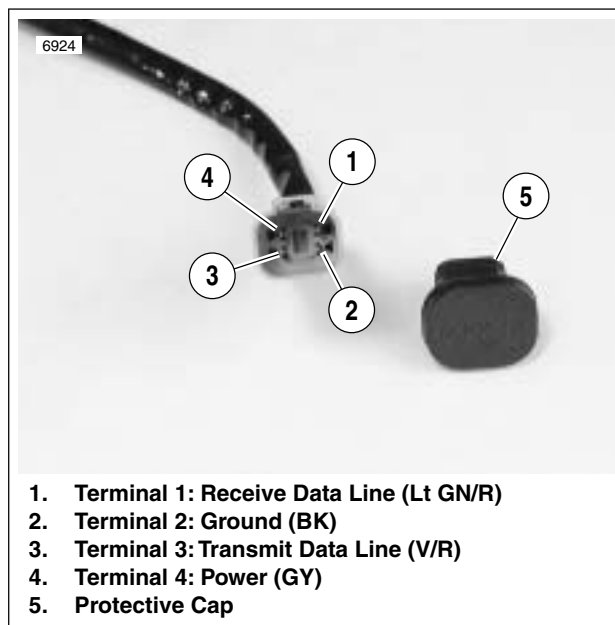

Figure 4-7. Installing Diagnostic Test Wire
- b. See Figure 4-7. Install diagnostic test wire across Terminal 1 and Terminal 2 on the data link connector [91A].